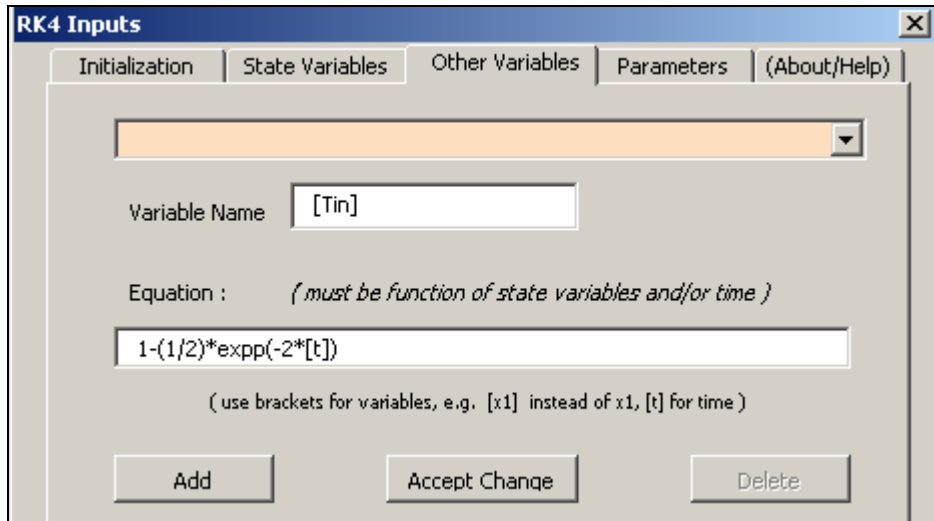

Figure 6. OTHER VARIABLES Folder Tab.
5. Next, switch to the **Other Variables** tab folder and input the equations for variables that are not state variables. Figure 6 shows the input for T_{in} .